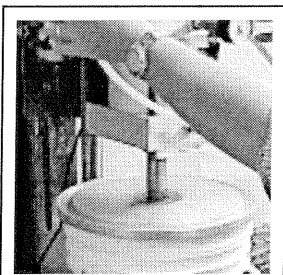

FIGURE 2
2. Center the pail and cover beneath the top platen of the pneumatic closer. (fig. 2)
3. Activate the pneumatic closer so that it snaps the cover onto the pail leaving approximately 1/4" clearance between the lower edge of the cover and the top satellite ring on the pail body. (fig. 2)